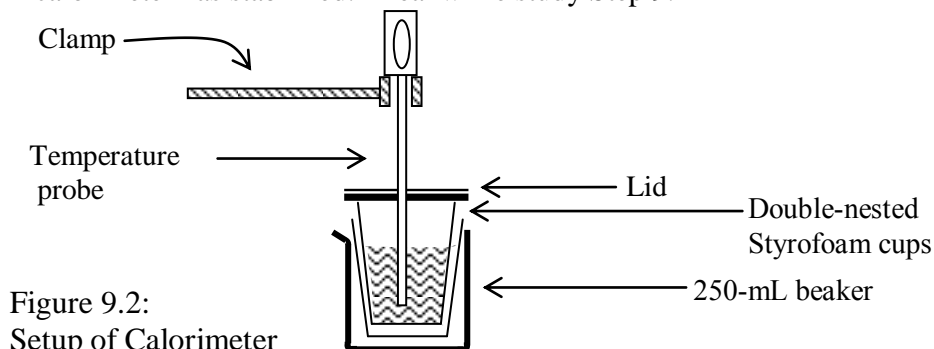

Figure 9.2:
4. Transfer the 50.0 mL HCl solution from the grad cylinder into the calorimeter, and place the calorimeter in a beaker as shown in Figure 9.2 so that the calorimeter would not topple over. Adjust the clamp so that the temperature probe is not touching the bottom or sides of the calorimeter, but extends below the liquid level.